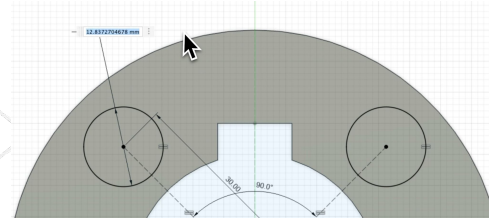

Figure 1.1
- In the example, two circles were drawn and constrained with equal, angle, and diameter rules (12 mm) (see Figure 1.1).